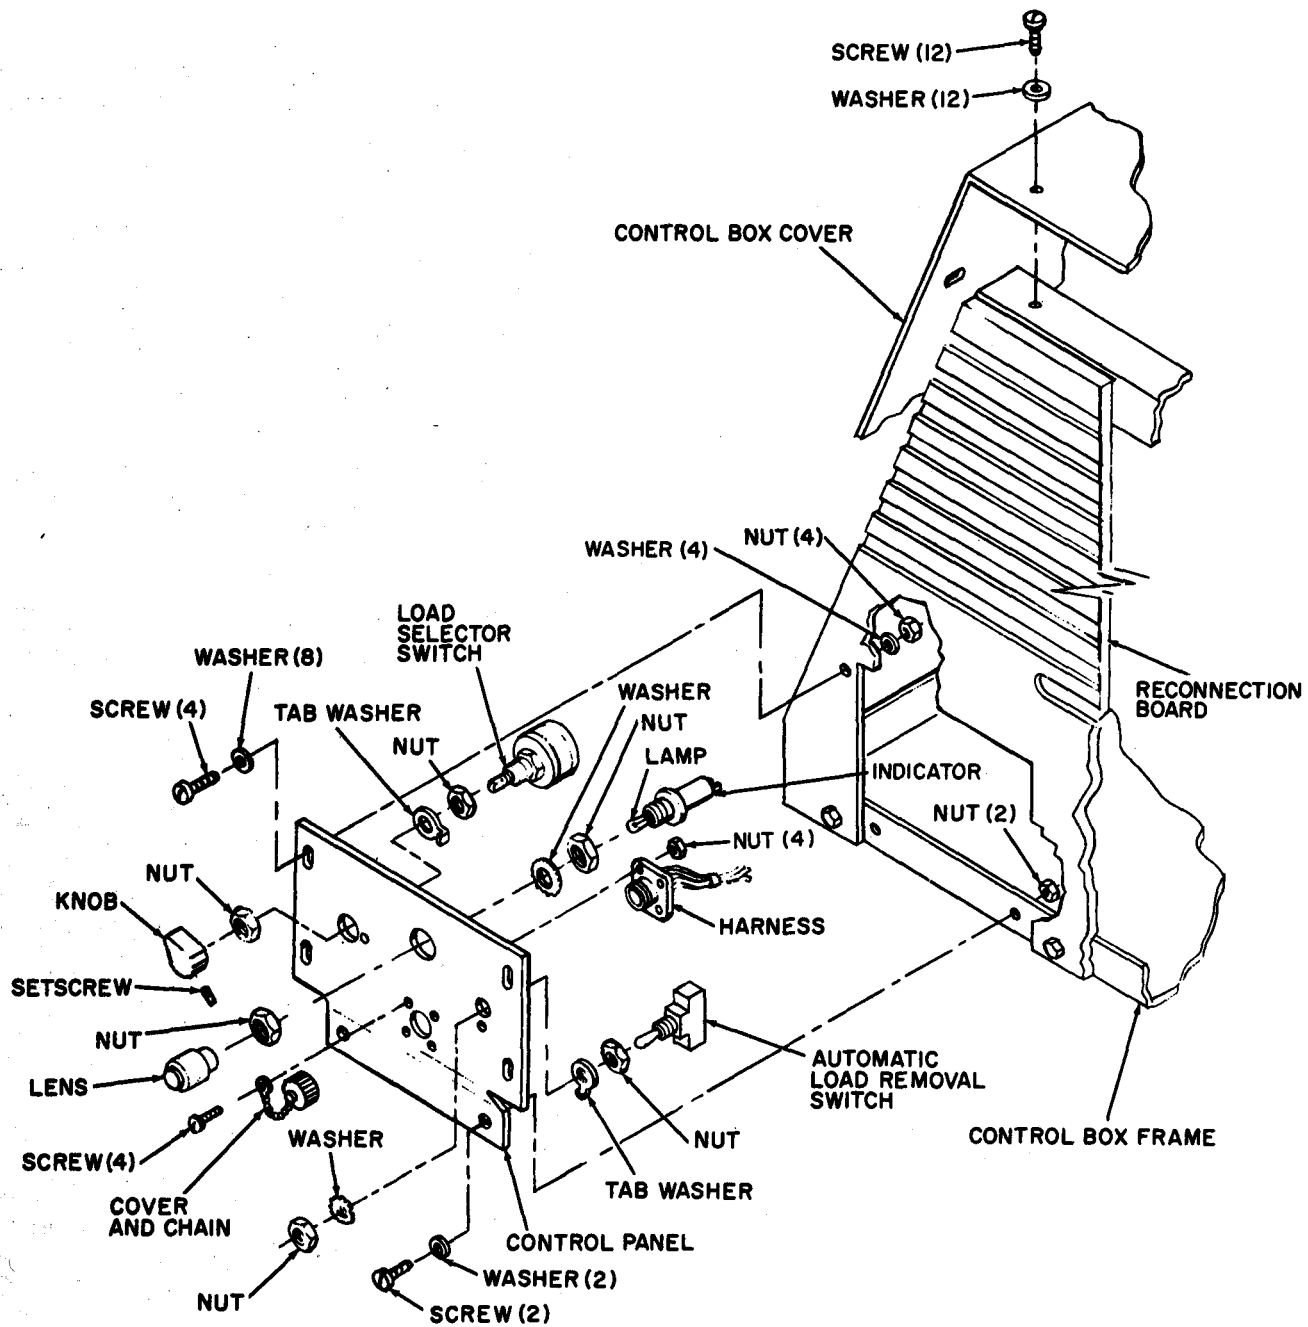

Figure 4-16. Dummy load kit control panel and components, removal and installation
a. INDICATOR LAMP REPLACEMENT. To replace indicator lamp, refer to figure 4-16 and proceed as follows:
b. COMPONENT REPLACEMENT. Replace control panel components as illustrated in figure 4-16, observing the following: